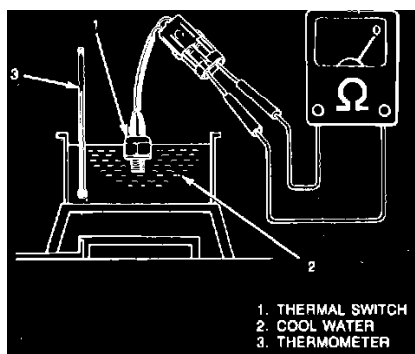

Fig. 17 Coolant temperature thermal switch test. Low temperature
4. Connect temperature sensor to a suitable ohmmeter, then immerse temperature sensing part into water and read resistance on ohmmeter while slowly raising water temperature, **Fig. 17**. Temperature to resistance relationship should be as shown, **Fig. 46**.